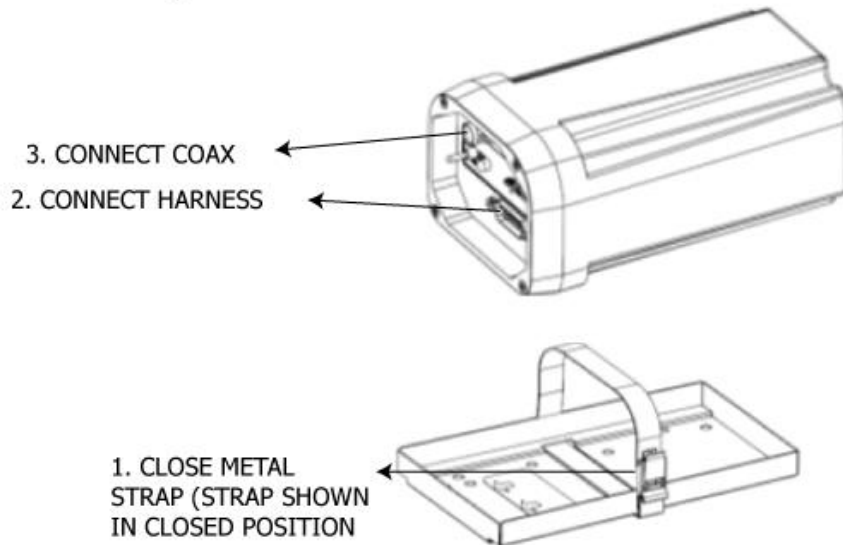

Figure 22 ELT Installation Sequence
- 1) See Figure 22 ELT Installation Sequence.